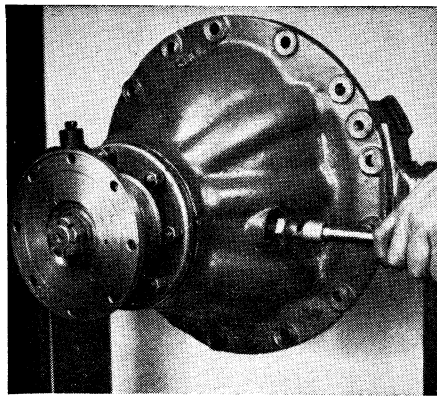

Fig. 73 Loosen jam nut and back off thrust block adjusting screw
4. Loosen jam nut and back off thrust block adjusting screw, Fig. 73.